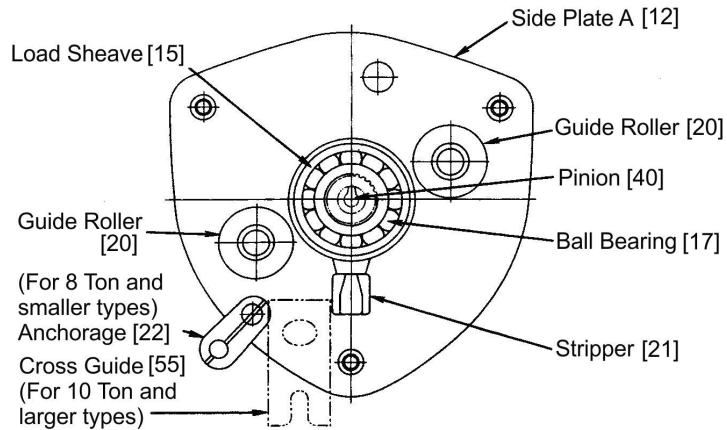

Figure 6-3 Side Plate Assembly
- 5)** Grease the balls of the ball bearing [17]. Insert it with the snap ring side down to the shaft of the load sheave [15]. See figure 6-3.